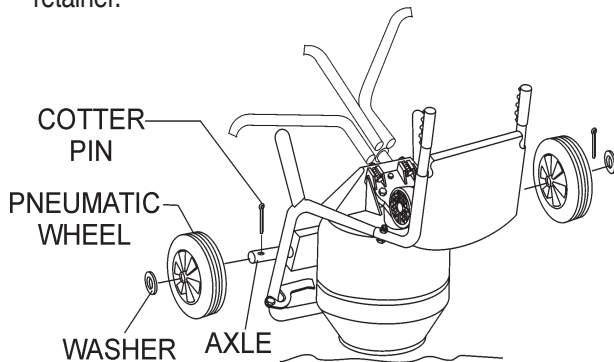

Figure 11. Wheels and Wheel Retainers
8. Place one wheel on each side of the mixer's axle as shown in Figure 11. Position wheel retainer over axle to secure wheel in place. Use a rubber mallet when striking wheel retainer.